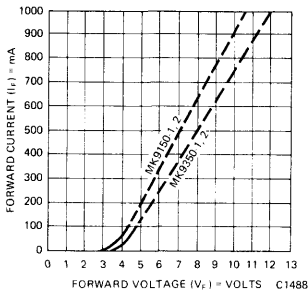

Fig. 5. Forward Voltage vs. Forward Current
- The dynamic resistance represents the slope of the I_F/V_F curve (Figure 5) for 20 mA < I_F < 125 mA.
Electrically the Illuminator consists of two GaAsP/GaP LED emitters internally connected in series. These two LED emitters are designed to operate at relatively high DC current levels. The typical forward voltage of 4.6V is specified at a forward current of 100mA. The variation of the dynamic resistance, r_d , cause the forward voltage to range from a minimum of 4.0V to a maximum of 5.2V when measured at 100mA. The I_F/V_F relationship shown in Figure 5 can be described as a piece-wise-linear model of a threshold voltage, V_{Fth} , plus the product of the dynamic resistance times the difference of the forward current minus the threshold current, I_{Fth} .